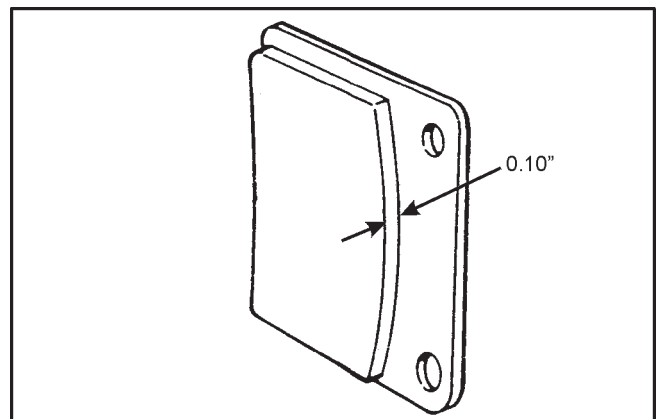

Figure 7-11. Brake pad wear; hydraulic brakes.
- the brake lining material molded to each metal backing plate is worn to 0.10" (2.5mm) thickness. (Figure 7-11).